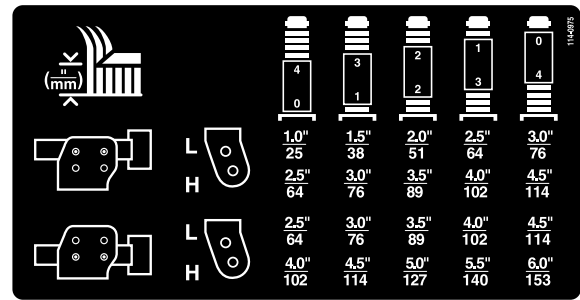

Figure 28
- Position the castor wheel axles in the same holes in all castor forks. Refer to the chart (Figure 28) to determine the correct holes for the height of cut setting.